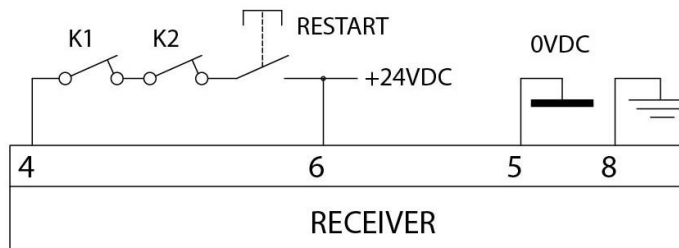

Figure 20 – Manual with K1K2 feedback
- ✦ In the case of manual operation, the RESTART button in series with the NC contacts (feedback) of the external contactors K1/K2 (Figure 20) must also be present.